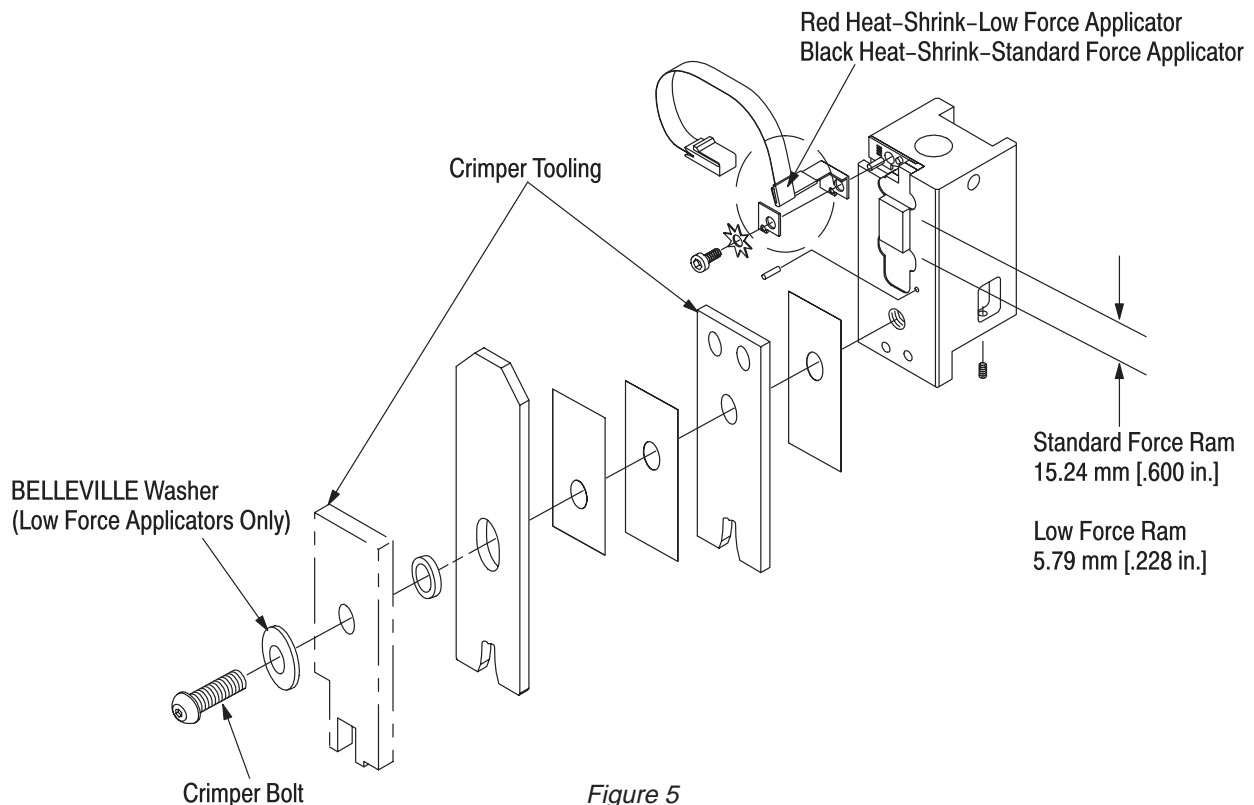

Figure 5
7. Loosen the setscrew from the ram block. See Figure 5.
7. Tighten the socket setscrew (Figure 5) on the back of the ram.